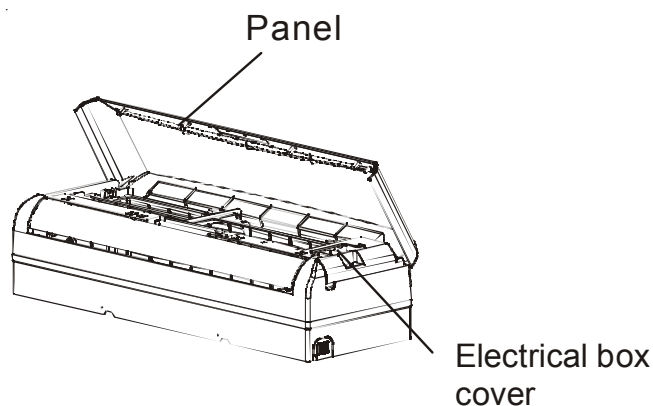

Figure 22A
3. Lift up the indoor unit panel, remove the electrical box cover by loosening the screw as show in Figure 22A.